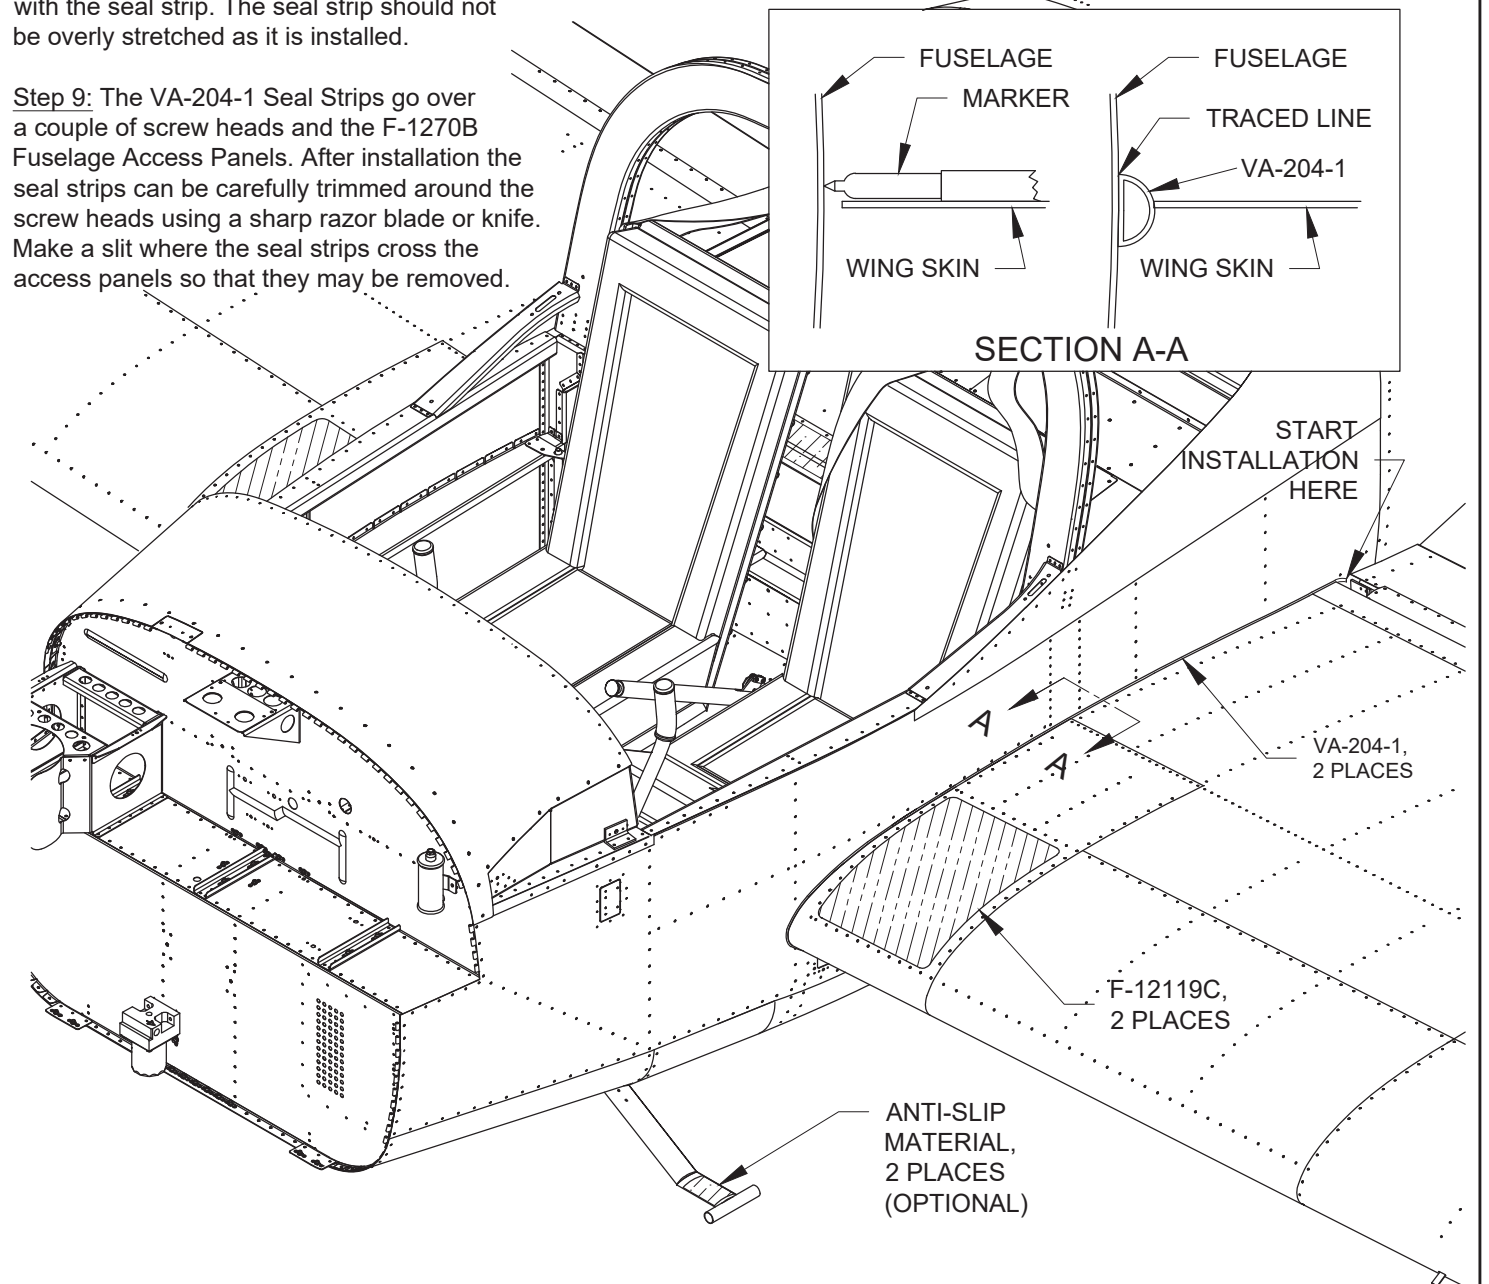

FIGURE 3: WING WALK AND STEPS
Step 7: With the wings installed, take a ultra-fine felt tip marker and, holding the pen body flat against the wing skin, outline each wing, top and bottom, on the side of the fuselage. See Figure 3 Section A-A. To avoid a bumpy outline on the fuselage, mark only between where the rivets on the wing are. This should produce an outline approximately 5/32 inch outside of where the wing meets the fuselage. Make a mark at the top and bottom skins trailing edges to show where the seal starts and ends. Remove the wings.
Step 8: Align the edge of the VA-204-1 Seal Strip with the outline traced on the side of the fuselage so that it just covers the line as shown in Figure 3 Section A-A. Care should be taken to make a smooth curve with the seal strip. The seal strip should not be overly stretched as it is installed.